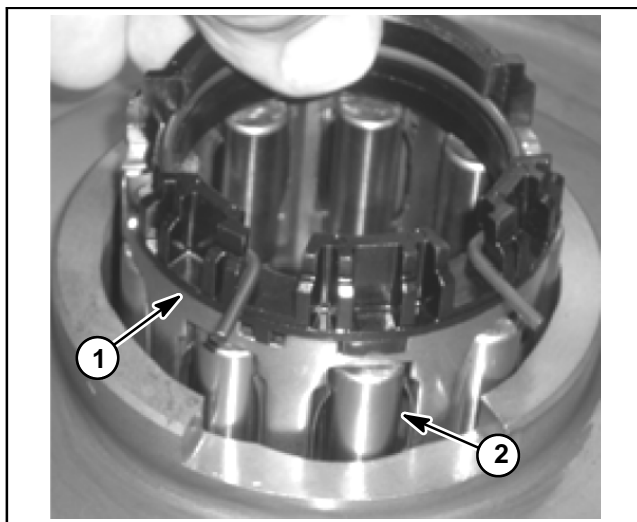

Figure 16
8. Lift the roller cage assembly from the center of the ring gear (Fig. 16). Note: the rollers are loose in the cage and may fall out when removed.